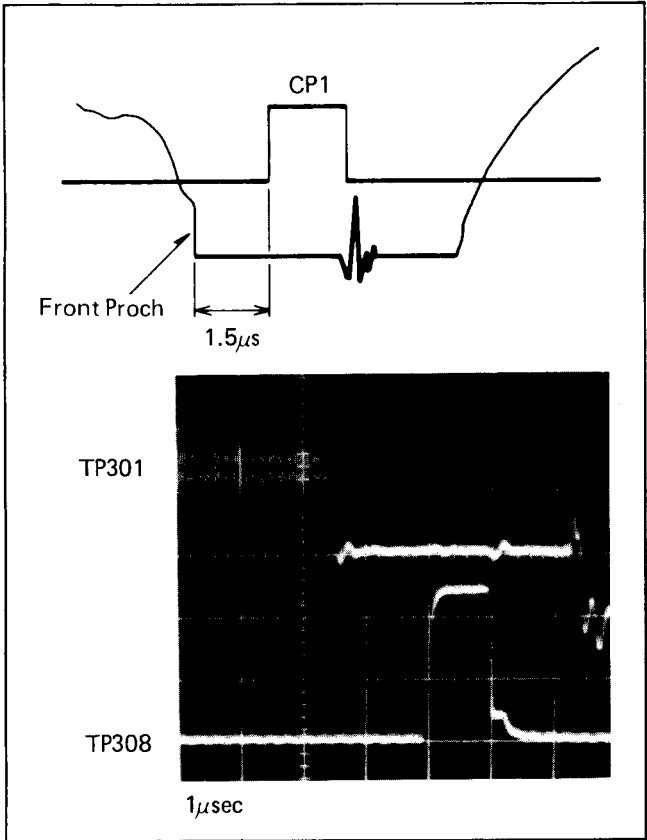

Fig. 25 Waveform for H. Cent.
5. Adjust the horizontal centering control, VR617, so that the time between the trailing edge of the video signal, in other words, the front porch of the optical black, and the leading edge of the clamp pulse 1 signal (TP308) is  $1.5\mu\text{sec}$ , as shown in Fig. 25.